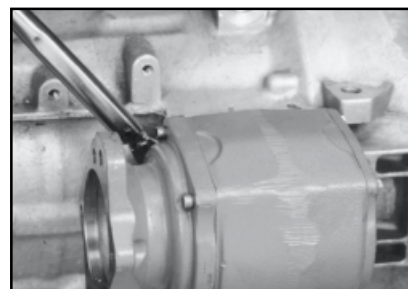

Figure 8
7. Fasten the P.T.O. to the transmission. Torque the self locking nuts to their proper specifications (Fig 8).